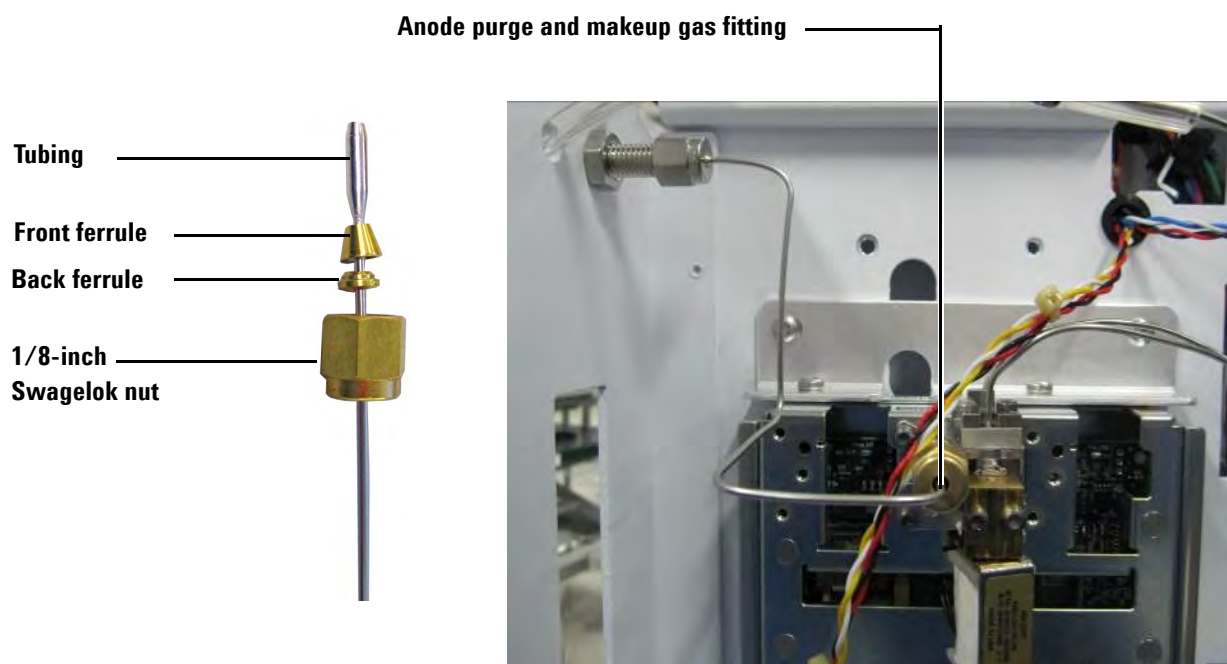
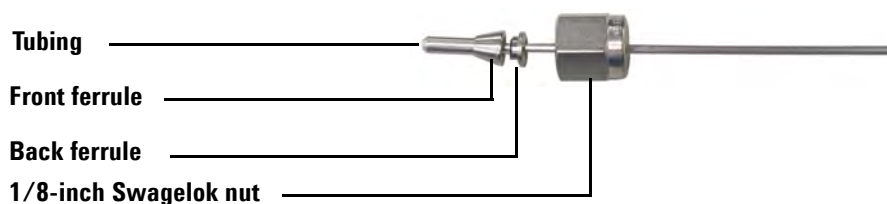

Figure 25 Complete EPC tubing connections
Figure 26 Ferrules and nut placement
- 5 Install a 1/8-inch brass nut and ferrule set onto the other 3rd μ ECD gas supply tube and connect this end of the 3rd μ ECD gas supply tube to the μ ECD manifold as shown in Figure 25.
- 6 Install the swagelok nut, back ferrule, and front ferrule from the bulkhead union onto the 3rd μ ECD gas supply tube as shown below and gently bend the tubing as needed into the shape shown in Figure 25 and Figure 26. The tubing should have bends with a radius > 1 cm and should not extend out from the EPC module beyond the box assembly frame.